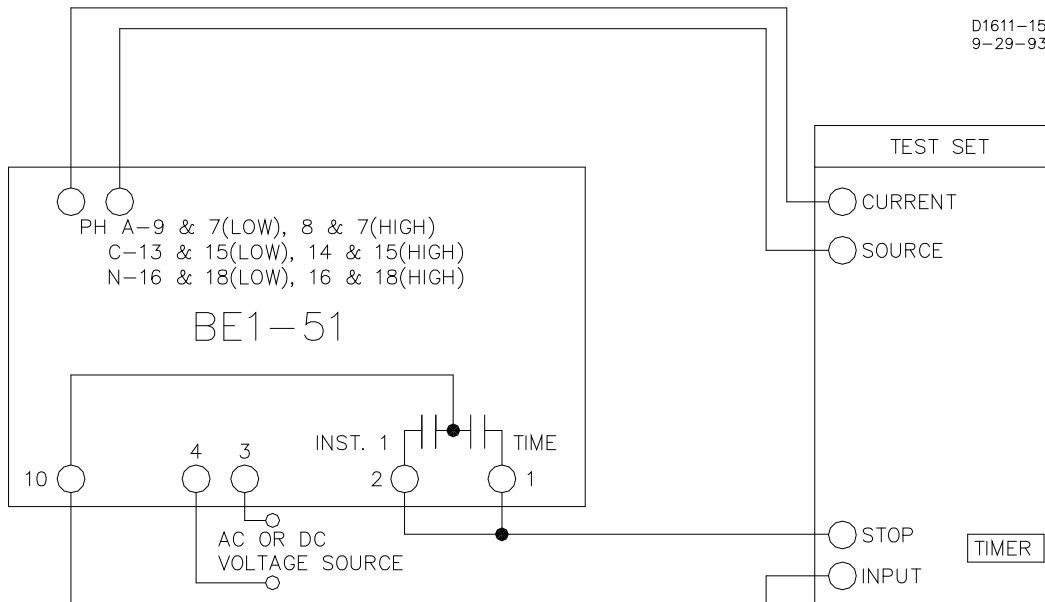

Figure 5-4. Test Setup for Sensing Input Type I or X (Two-Phase with Neutral Sensing)
- (d) Sensing Input Type I or X (Two-Phase with Neutral Sensing). Refer to Figure 5-4.
- (b) Sensing Input Type I or X (Two-Phase and Neutral Sensing). Remove the power and reconnect the input sensing to the remaining phases as shown in Figure 5-4, each time repeating Steps 1 through 10. For neutral testing, continue with Step 12.